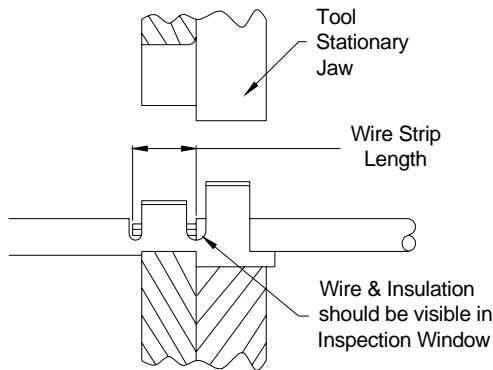

Figure 2
Refer to Figure 2, and proceed as follows:
4. Insert stripped wire into contact insulation and wire barrels until wire and insulation are visible in inspection window, as shown in Figure 2.